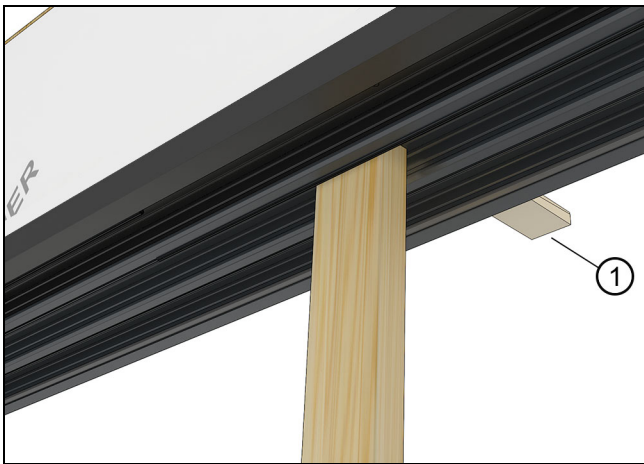
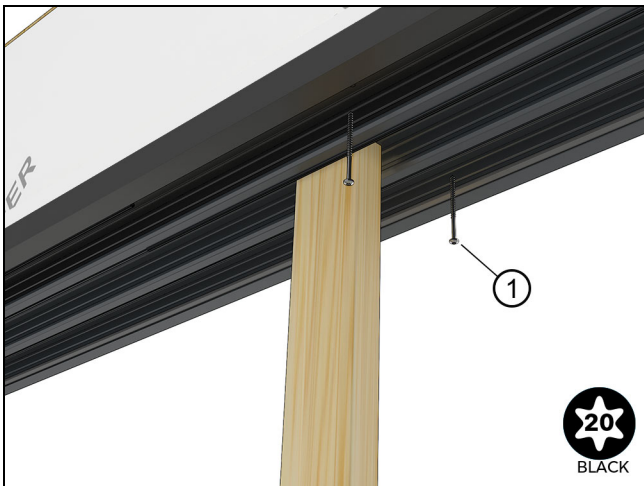

Figure 69
Figure 70
6. Starting at the center, shim and fasten the head jamb with #10 x 3" (76) screws so that a story pole stays in light contact with the sill and head jamb. Repeat this process the entire width. See Figure 69 and Figure 70.